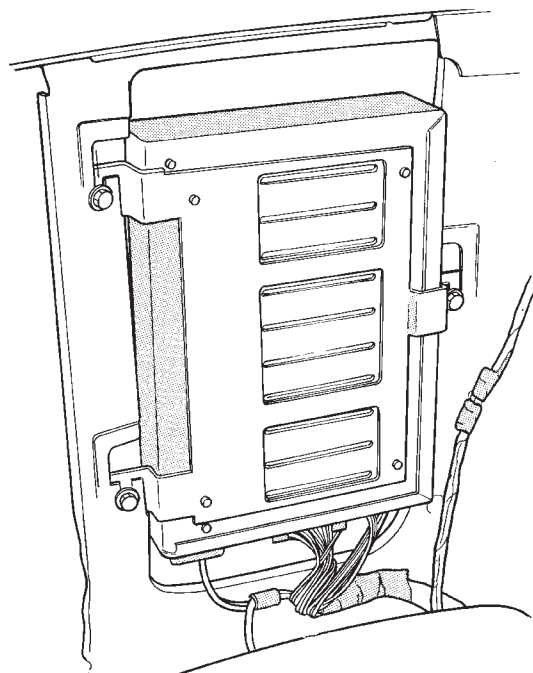

Fig. 16 Amplifier Location
- (1) Pull aside left side trunk liner.
- (2) Loosen the three amplifier attaching bolts (Fig. 16).
- (3) Raise up amplifier to remove and disconnect the three electrical connectors.
- (4) For installation reverse above procedures. Tighten amplifier bolts to 4 N•m (40 in. lbs.) torque.